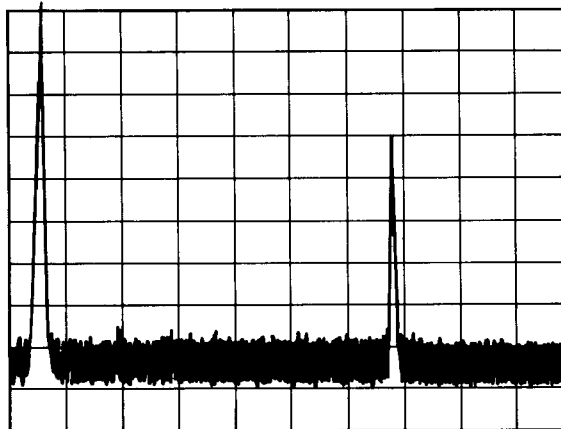

Figure 5-42. Unlevelled Squegging Displayed on Spectrum Analyzer
29. Using the STEP UP key on both the 8340A Under Test and the Local Oscillator 8340A, step through Band 2, observing the Spectrum Analyzer display at each step. There may be responses due to mixing products. These will appear as low level signals. A squegging response will appear as a higher amplitude signal as shown in Figure 5-42. If squegging occurs at 8340A frequencies below 10 GHz, adjust A24R3 (X2A) slightly CCW to eliminate the squegging. If squegging occurs at frequencies above 10 GHz, adjust A24R4 (X2B) to eliminate the squegging. Note, if the control is adjusted and there is no effect on the response, the response is probably a mixing product.